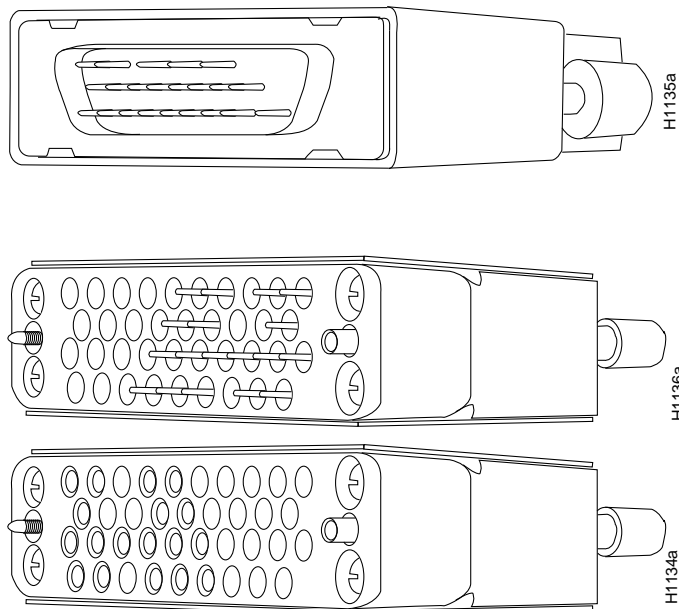

Figure 3-4 HD V.35 Chassis Connector and Male and Female Network Connectors
- HD V.35 chassis connector and male and female network connectors, Figure 3-4
The HD V.35 cable is available in four models: DTE male to male, DTE male to female, DCE male to male, and DCE male to female. The chassis connector (shown at the top of Figure 3-4) is always a male HD-26 connector, while the network end can be a male or female Winchester-type 34-pin connector.